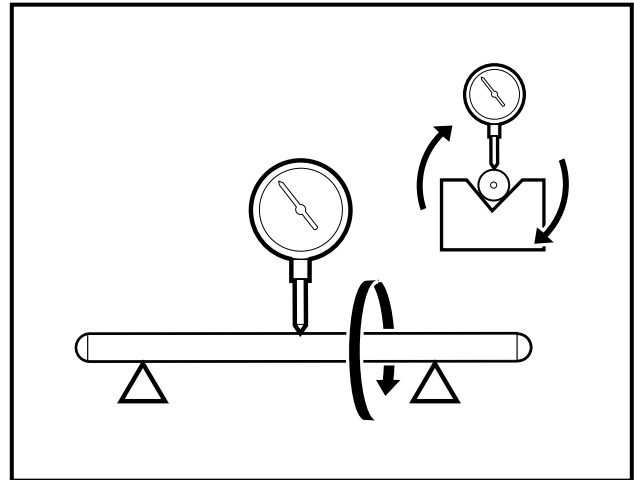

Figure 13-35 Check For Push Rod Distortion
1. Support the rod in V blocks at each end of the rod. Position a dial gauge perpendicular to the rod (**Figure 13-35, Page 13-19**).